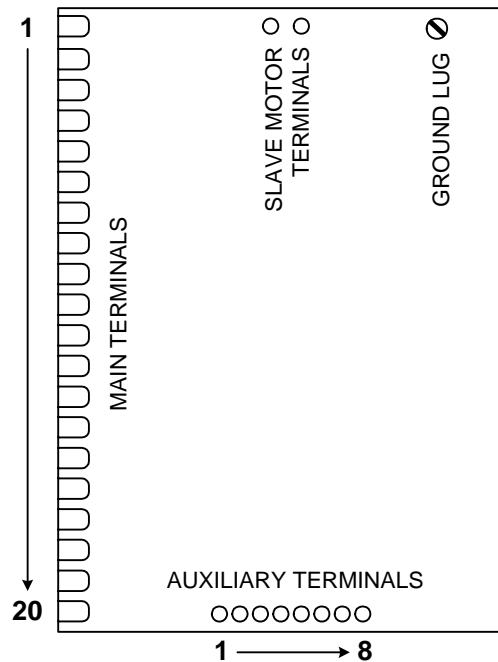

Figure 36
1. Be sure power to the operator is turned OFF whenever adjustments to the clutch are being made. Loosen the upper jamb nut to "un-lock" the lower jamb nut then loosen the lower jamb nut. (See figure 36 on the preceding page)